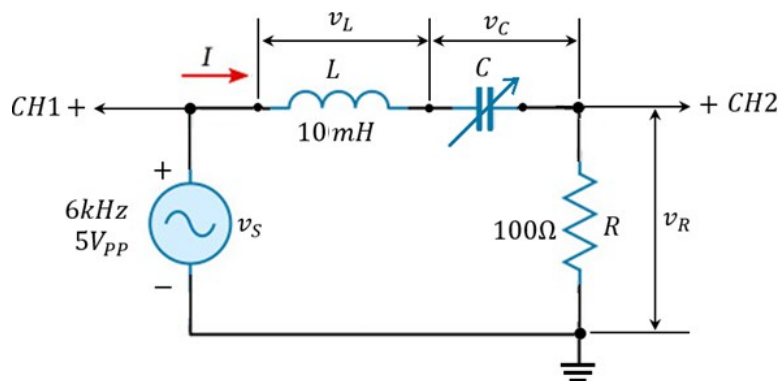

Figure 1
1. Complete the RLC circuit by setting 100Ω resistance, 10mH inductance and 30nF capacitance as shown in Figure 1.